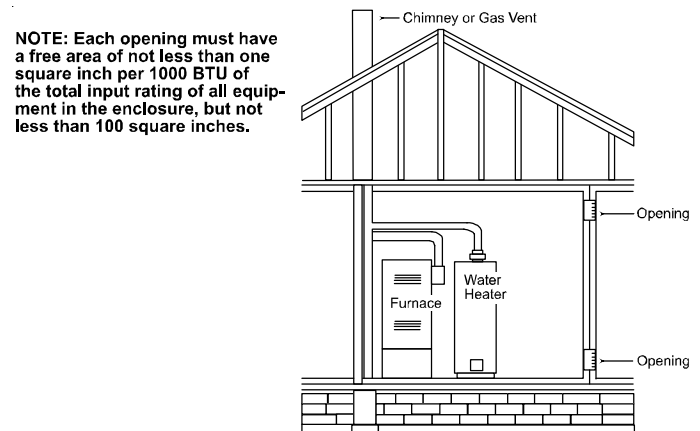

Figure A.9.2.3.3.(1) All Combustion Air from Adjacent Indoor Spaces through Indoor Combustion Air Openings.
- (1)* *Combining spaces on the same story.* Each opening shall have a minimum free area of 1 in.²/1000Btu/hr (2200 mm²/kW) of the total input rating of all appliances in the space but not less than 100 in.² (0.60m²). One opening shall commence within 12 in. (300 mm) of the top, and one opening shall commence within 12 in. (300 mm) of the bottom, of the enclosure [see Figure A.9.2.3.3(1)]. The minimum dimension of air openings shall be not less than 3 in. (80 mm).